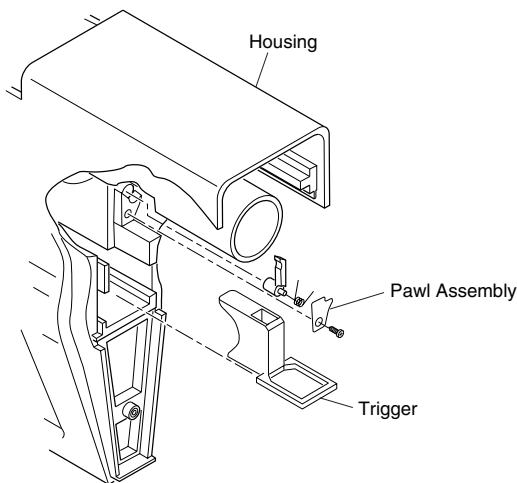

Figure 10 - Removing Trigger and Pawl Assembly
1. Slide trigger out of housing (see Figure 10).
2. Using a phillips head screw driver, loosen screw and remove pawl assembly components from housing (see Figure 10).